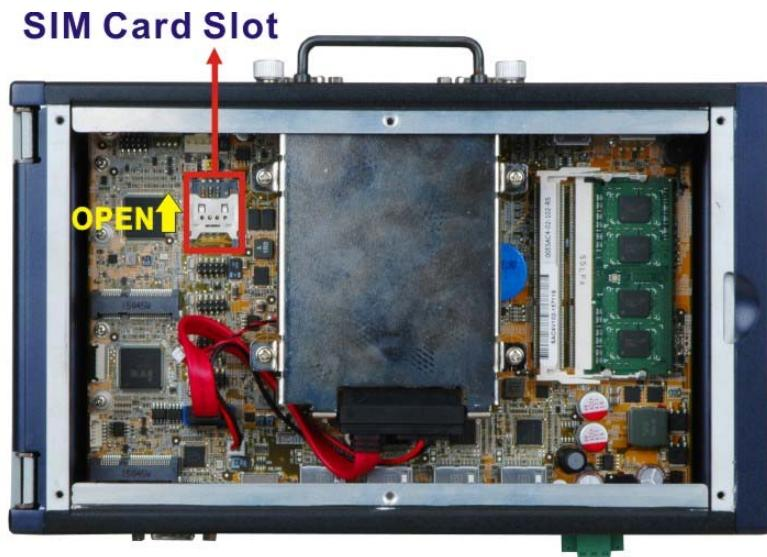

Figure 3-21: Unlock Slot Cover
Step 4: Unlock the slot cover by pushing it towards the front panel as shown in **Figure 3-21**. Then, open the slot cover.